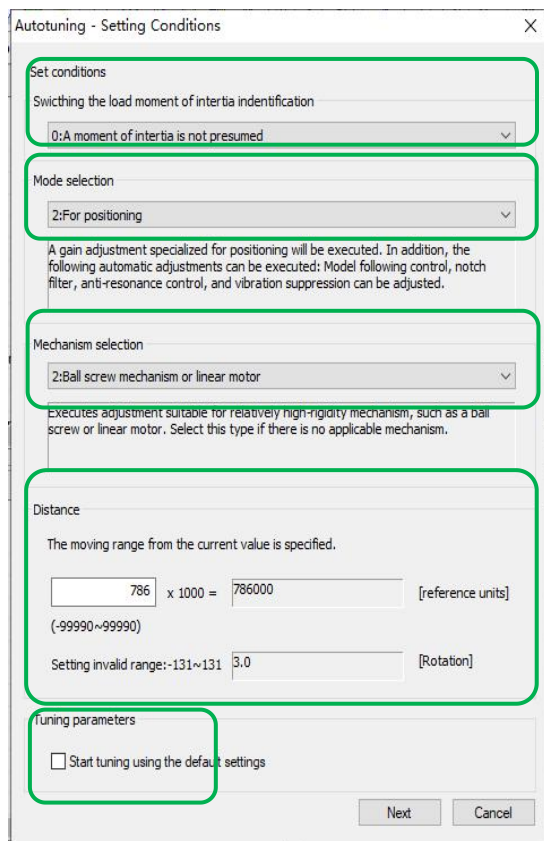

Figure 8
5. Enter the [Auto Tuning Setting Conditions] window (Figure 8)